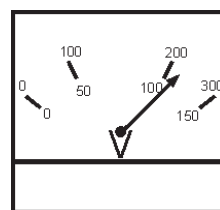
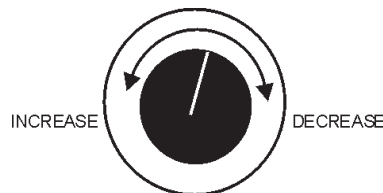

Figure 52. Voltage Meter (Volts)
Figure 53. Voltage Adjust Control Knob
11. The generator's voltage meter (Figure 52) displays the 120 VAC in **VOLTS**. If the voltage is not within the specified frequency tolerance, use the voltage adjustment control knob (Figure 53) to increase or decrease the desired voltage.